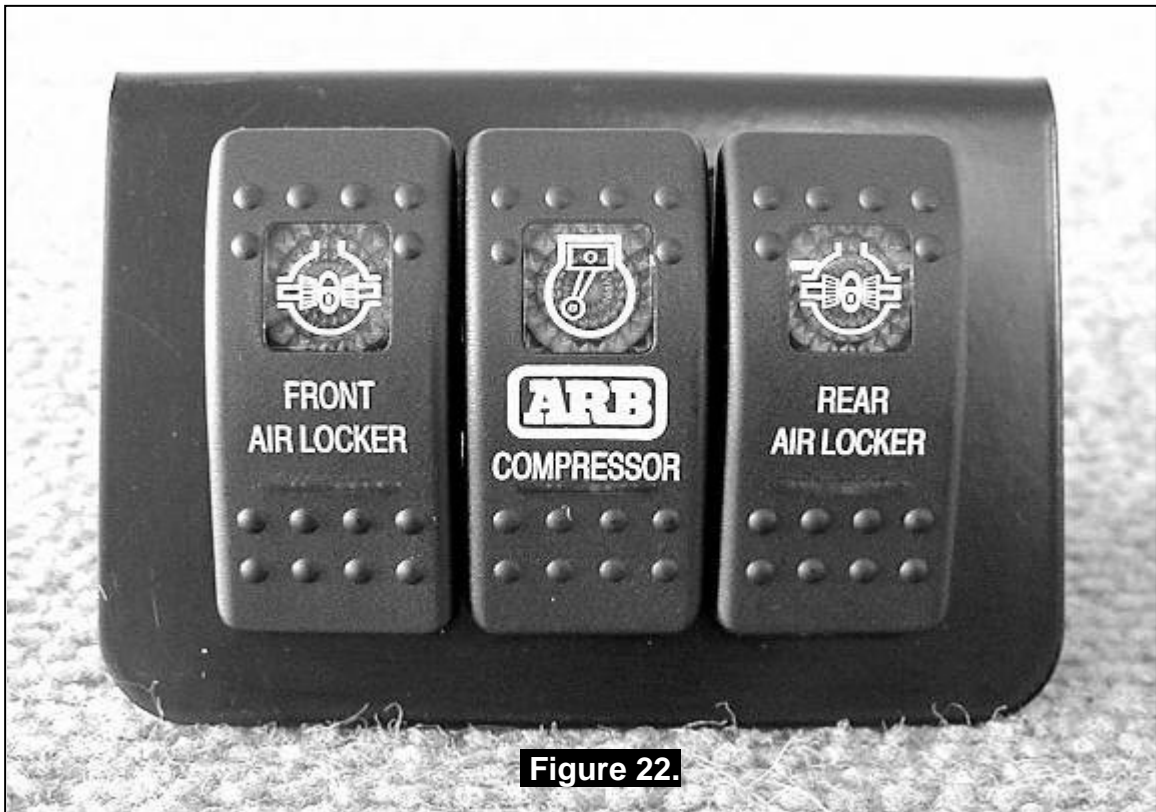

Figure 22.
**NOTE :** If no adequate position can be found on existing dashboard panels, a surface mounted bracket (Fig. 22.) may be purchased from your *ARB Air Locker* distributor to suit 1, 2, or 3 switches.